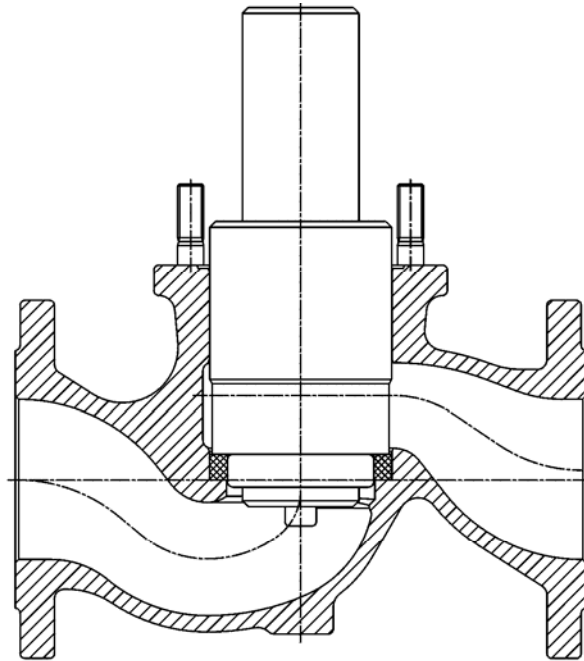
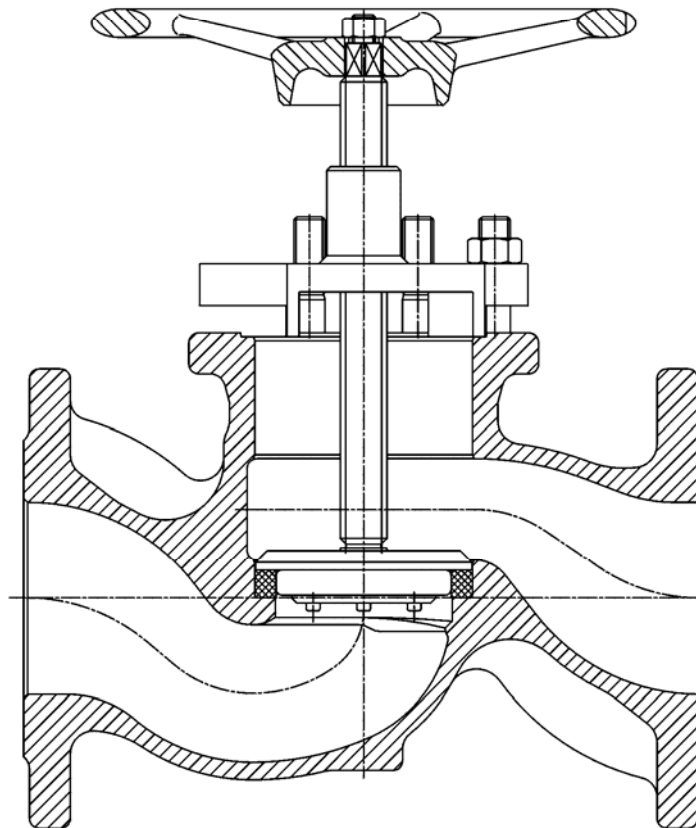

Fig. 6
Fig. 7
- *Mount the bottom valve ring (14) with the mounting tool (for DN 65 – 200 see fig.6 for DN 100 – 200 see Fig. 7)*
- *Insert the cleaned lantern bush (5), ensuring that no teeth are on the valve outlet side (optimised Kv value)*
- *Mount the top valve ring (14) with the mounting tool*
- *Place compression piece (18)*
- *Press the bonnet valve ring (16) into the body bore with mounting tool*